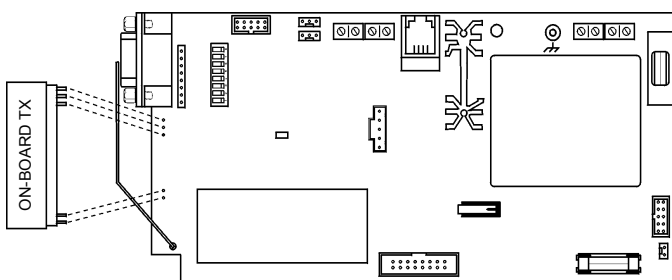

Figure 3: Plugging in the On-Board Transmitter
5. To support the EL-2626AC, the infinite's Main board must have the on-board transmitter installed. Plug the on-board transmitter into the control panel's Main board as shown in Figure 3.